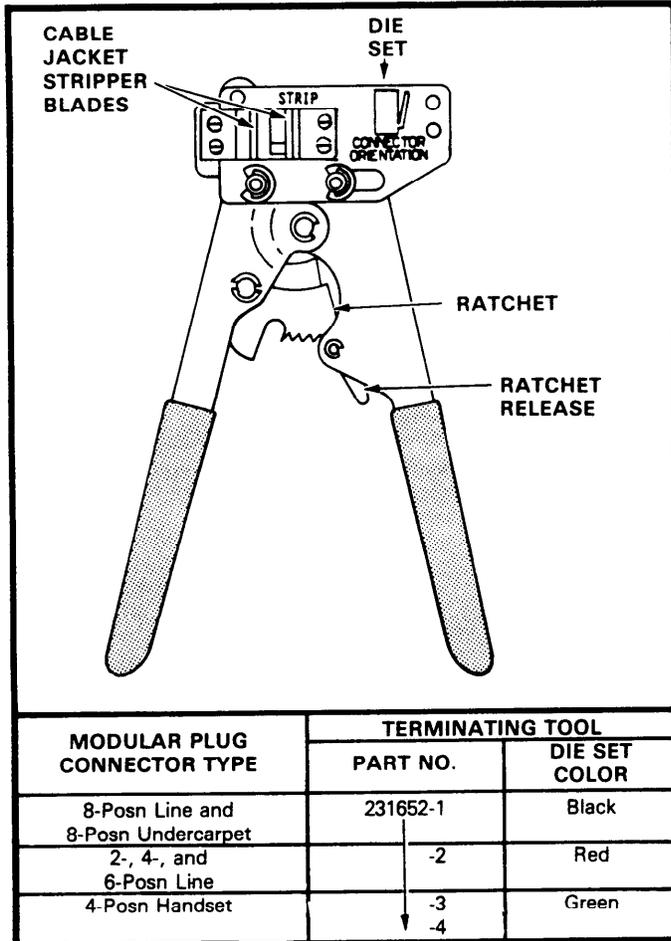

Fig. 1
2. DESCRIPTION (Figure 1)
Refer to the chart in Figure 1 and check to be sure that the selected connector and the hand tool to be used are compatible.